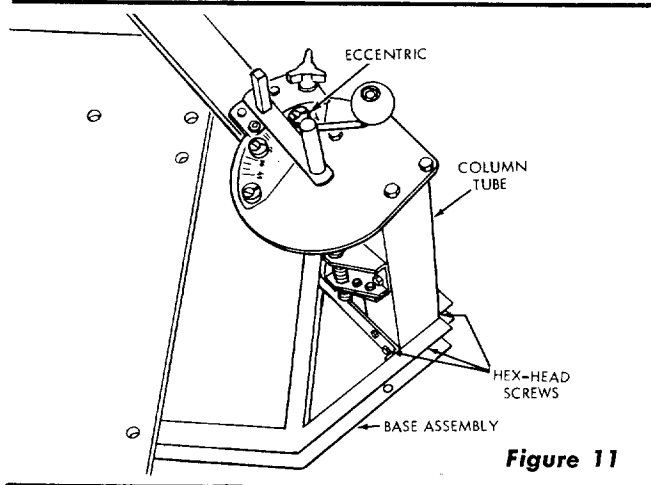

Figure 11
- (1) Loosen the six hex-head screws (figure 11) that secure the column tube to the base.